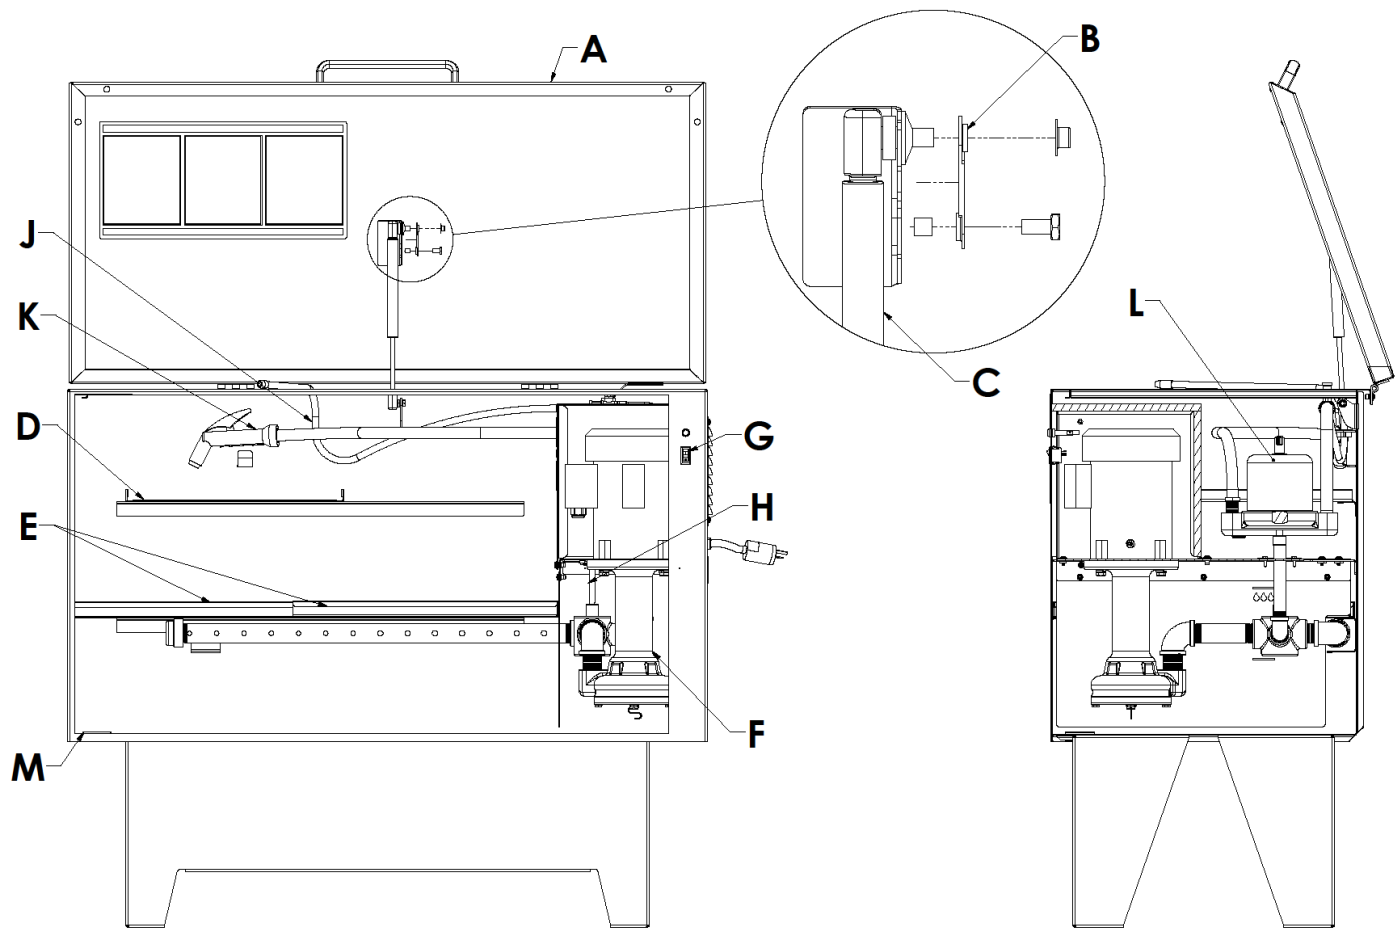

FIGURE 1
Open the automatic Safety Cover (FIGURE 1 (A)) on your Clean-O-Matic and you will notice that it lifts simply and easily with one hand. There is nothing to connect or disconnect to open or close the cover.
Your Clean-O-Matic cover is equipped with a two-way gas spring (FIGURE 1 (C)) that also incorporates a fusible link (FIGURE 1 (B)). When open, the cover mechanism supports the cover at a slightly forward angle. This angle is necessary to assure the cover's fusible link will operate in the unlikely event of fire in the tank. In the event of a fire, the fusible link will melt at 165°F permitting the lid to slam shut, reducing oxygen supply to the fire.
Every Clean-O-Matic comes equipped with one perforated shelf (FIGURE 1 (D)) and two telescoping shelves (FIGURE 1 (E)) which serve as a freeboard barrier to help limit VOC emissions. Your own cleaning needs will determine which position is best for your operation.
The centrifugal pumping unit (FIGURE 1 (F)) supplied with the Clean-O-Matic is a rugged “machine tool” quality unit that is a valuable aid in parts cleaning. It is particularly useful in flushing away softened grease and grime after parts have been soaked.
To operate the pump and tank agitation after filling, turn on the switch (FIGURE 1 (G)) on the front of the Clean-O-Matic or turn valve for air. The green pilot light should go on, indicating that the pump is running. On all models, the small valve on the flexible metal hose (FIGURE 1 (J)) allows you to cut off flow to the flexible hose, directing all fluid through the spray hose (FIGURE 1 (K)). Always direct flow into tank in such a way as to avoid splashing. Never point spray nozzle at anyone. On Models 504 through 924, the Selector Valve (FIGURE 1 (H)) is located on the inside rear-right hand side of the tank. The Selector Valve permits use of tank agitation alone, the flush and spray hoses together, or a combination of all three.
Your Clean-O-Matic is equipped with a filter (FIGURE 1 (L)) with a reusable screen collector element. This screen collector should be cleaned at least once a week, more often in heavy use, in order to help extend the life of the cleaning fluid and increase cleaning efficiency. Periodically, an oil filter cartridge (see spare parts list below) can be placed in the filter canister in place of the screen collector. Running the pump for a few hours will pull more contaminants out of the fluid and help extend fluid's usable life.